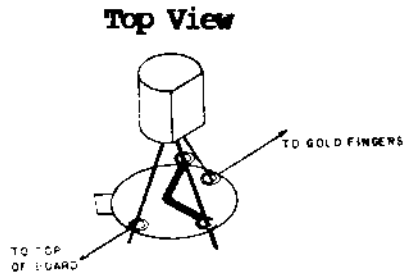

FIGURE 2
- [] Install and solder TEN (10) 0.1 uf monolithic capacitors at locations C1, 2, 5-9, and 11-13.
- [] Install and solder ONE (1) 47-56 pf disc capacitor at location C4.
- [] Install and solder ONE (1) .0033 uf disc capacitor at location C17.
- [] Install and solder TWO (2) 10 uf axial capacitors at locations C3 and C10. **Use caution in installing these components--C3 and C10 MUST have the positive (+) end to the RIGHT side of the board.**
- [] Install and solder ONE (1) 4.7 uf axial capacitor at location C14. **Use caution in installing this component--C14 MUST have the positive (+) end to the LEFT side of the board.**
- [] Install and solder ONE (1) 2N3904 transistor at location Q1. Again, use caution in installing this component; refer to Figure 2 for proper orientation. **Use caution that the lead closest to the bottom of the board DOES NOT touch R8.**